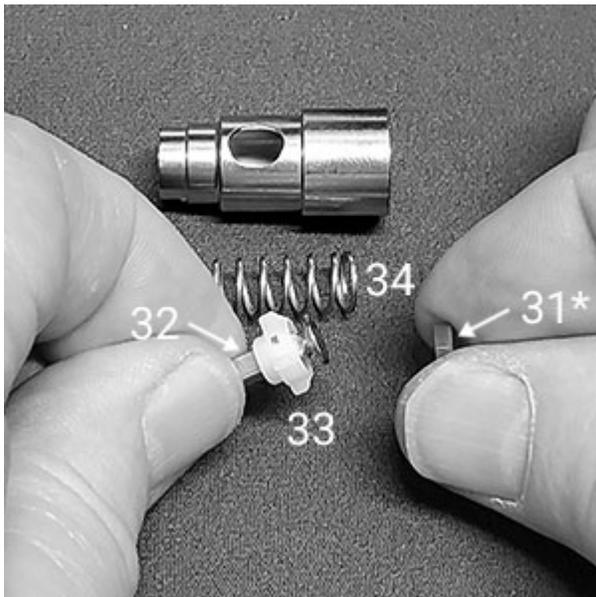
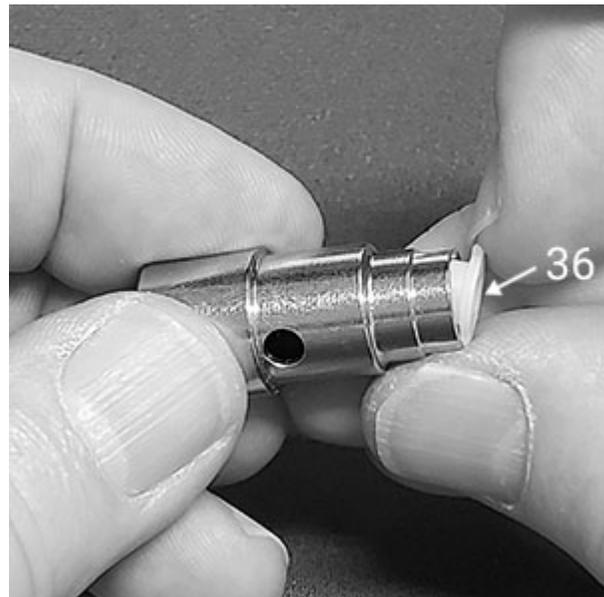

Fig. 25
Fig. 26
20. Unscrew the Spider 2 tool. Noting that the Seat assembly is under tension from the Spring (34), remove the Seat assembly and Spring. Slide back the Seat Retainer (33) and remove the Seat (31*) and Stem (32) - Fig. 25. Using a fingernail, remove the Housing Insert (36) from the Valve Housing - Fig. 26.